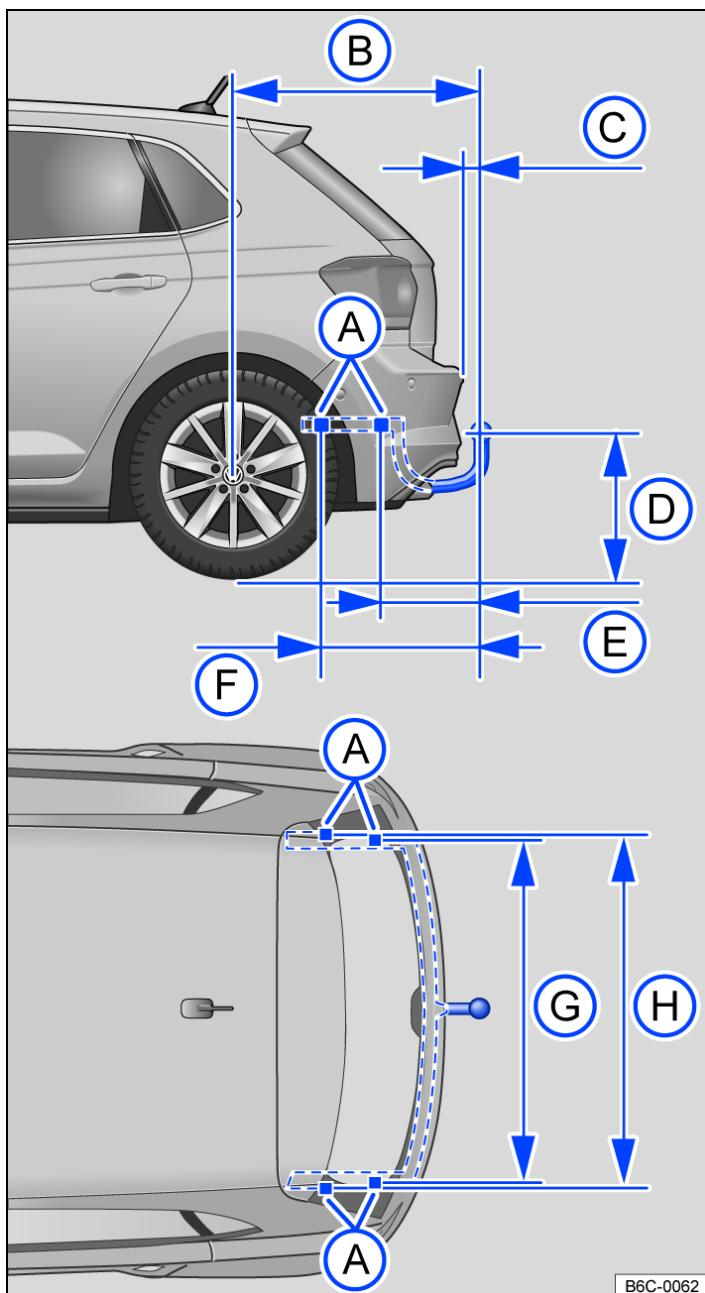

Fig. 1 Dimensions and mounting points for retrofitting a towing bracket.
The dimensions → Fig. 1 must be adhered to when retrofitting a towing bracket. Always observe the minimum distance given from the middle of the ball head (D) to the surface of the road. This also applies when the vehicle is fully laden, including maximum drawbar load.
- (A) Mounting points
- (B) 798 mm
- (C) At least 65 mm
- (D) 350 – 420 mm
- (E) 333 mm